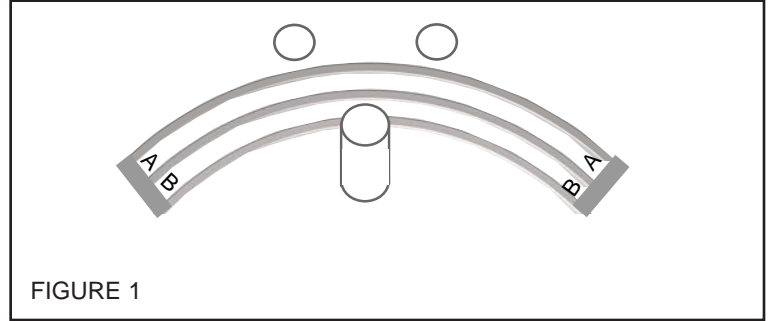

FIGURE 1
5. Feed rail in to the bending tool with one end, then for each pass through rollers reverse and feed it again with the other end. (as shown in Figure 1 and Figure 2 )